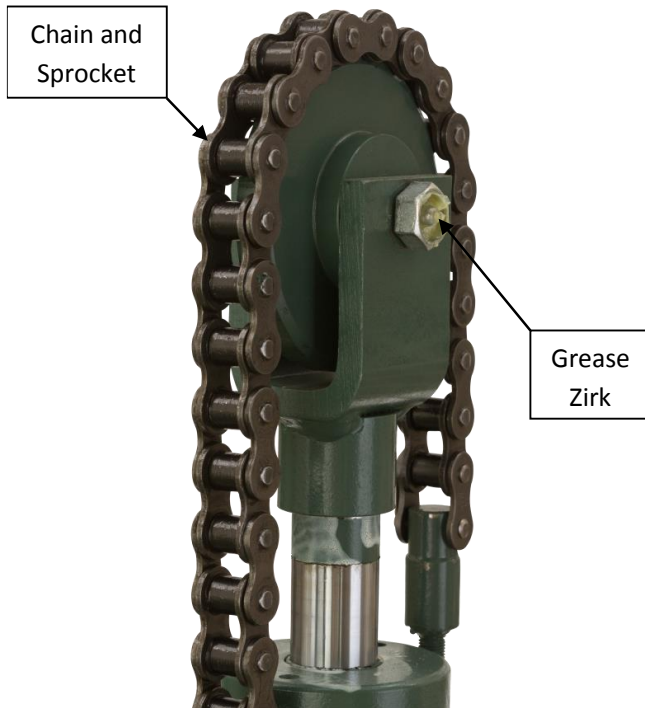

Figure 34: Lift Truck chain and sprocket
16. Inspect the chains/sprocket (see Figure 34) and the lifting rail of lift truck, if used for normal operation. For normal operation use a heavy gear lubricant. In very dirty or gritty conditions, use a dry lubricant.